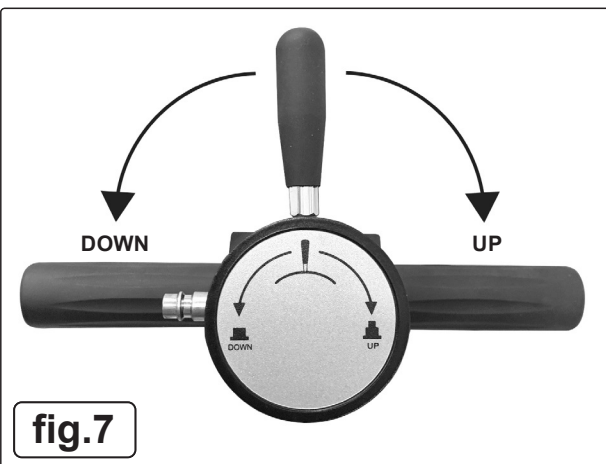

fig.7
- 5.2.1. Whilst holding the main jack handle, lifting is achieved by turning the air control lever to the right, as shown in Fig. 7.
- 5.3.2. Whilst holding the main jack handle lowering is achieved by turning the air control lever to the left. Fig.7.